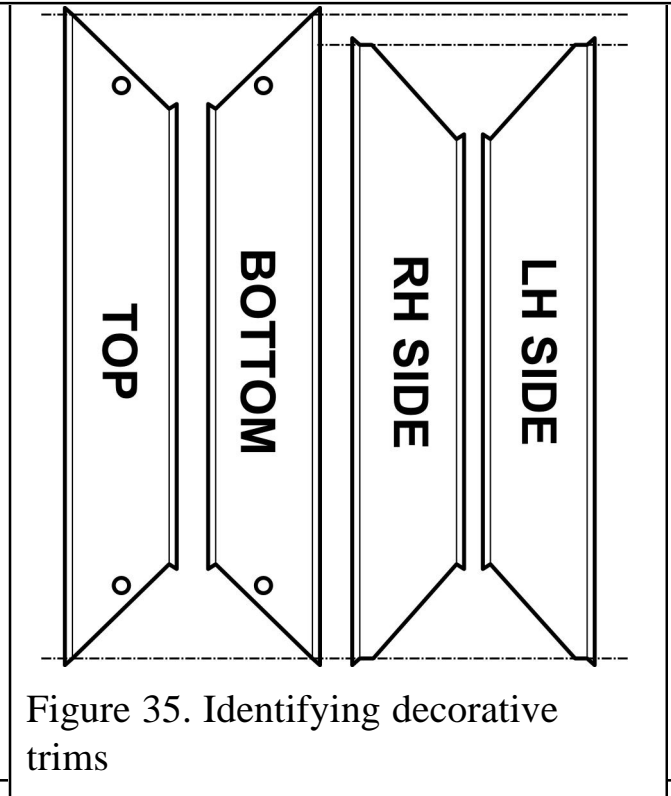

Figure 35. Identifying decorative trims
3. The fascia decorative trim is made up of four sections. A bottom and top section of equal length and two shorter sections of equal length that are the side sections. These can be identified as in figure 35.